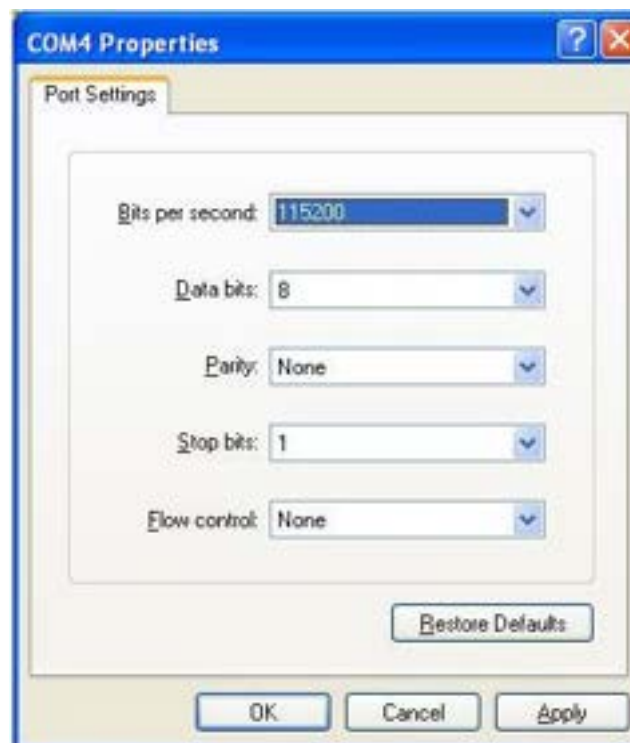

Figure 18 Setting Port Parameters
Step 5: Set port parameters (Bits per second: 115200, Data bits: 8, Parity: None, Stop bits: 1, and Flow control: None), as shown in Figure 18.